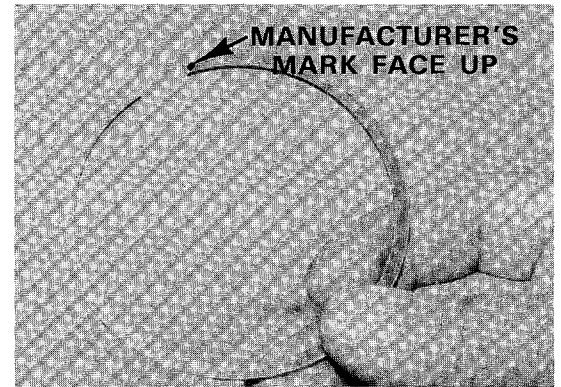

Figure 6-20
2. Put the slotted oil ring in the bottom groove, the unplated iron ring in the second groove and the chrome-plated compression ring in the top groove. The manufacturers' mark on the end of each ring must face upward (Figure 6-20).